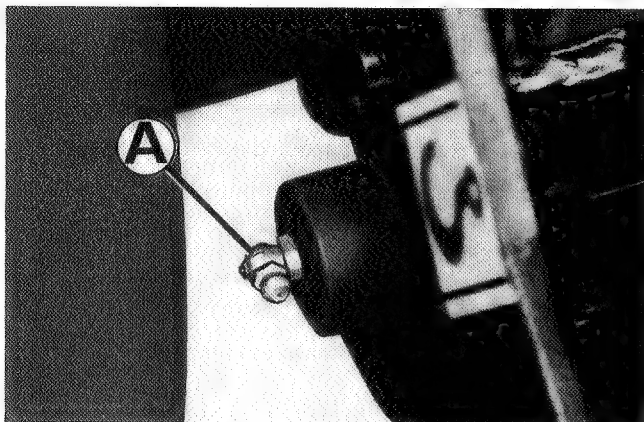

Fig.29
- (a) Lift arm pivots (A Fig. 29).
- (a) Hubarm lagerzapfen (A Fig.29).
- (a) Pivots des bras de relevage (A, Fig.29).